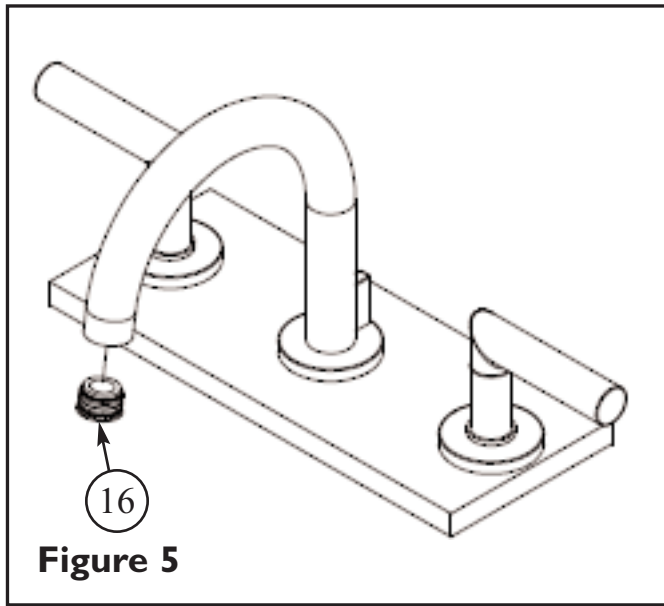

Figure 5
6. Remove AERATOR (16) from SPOUT. Turn on water supply, and flush both VALVES until water is clear. Check for leaks and make any final adjustments required. Re-attach AERATOR (16) to the SPOUT. **See Figure 5.**